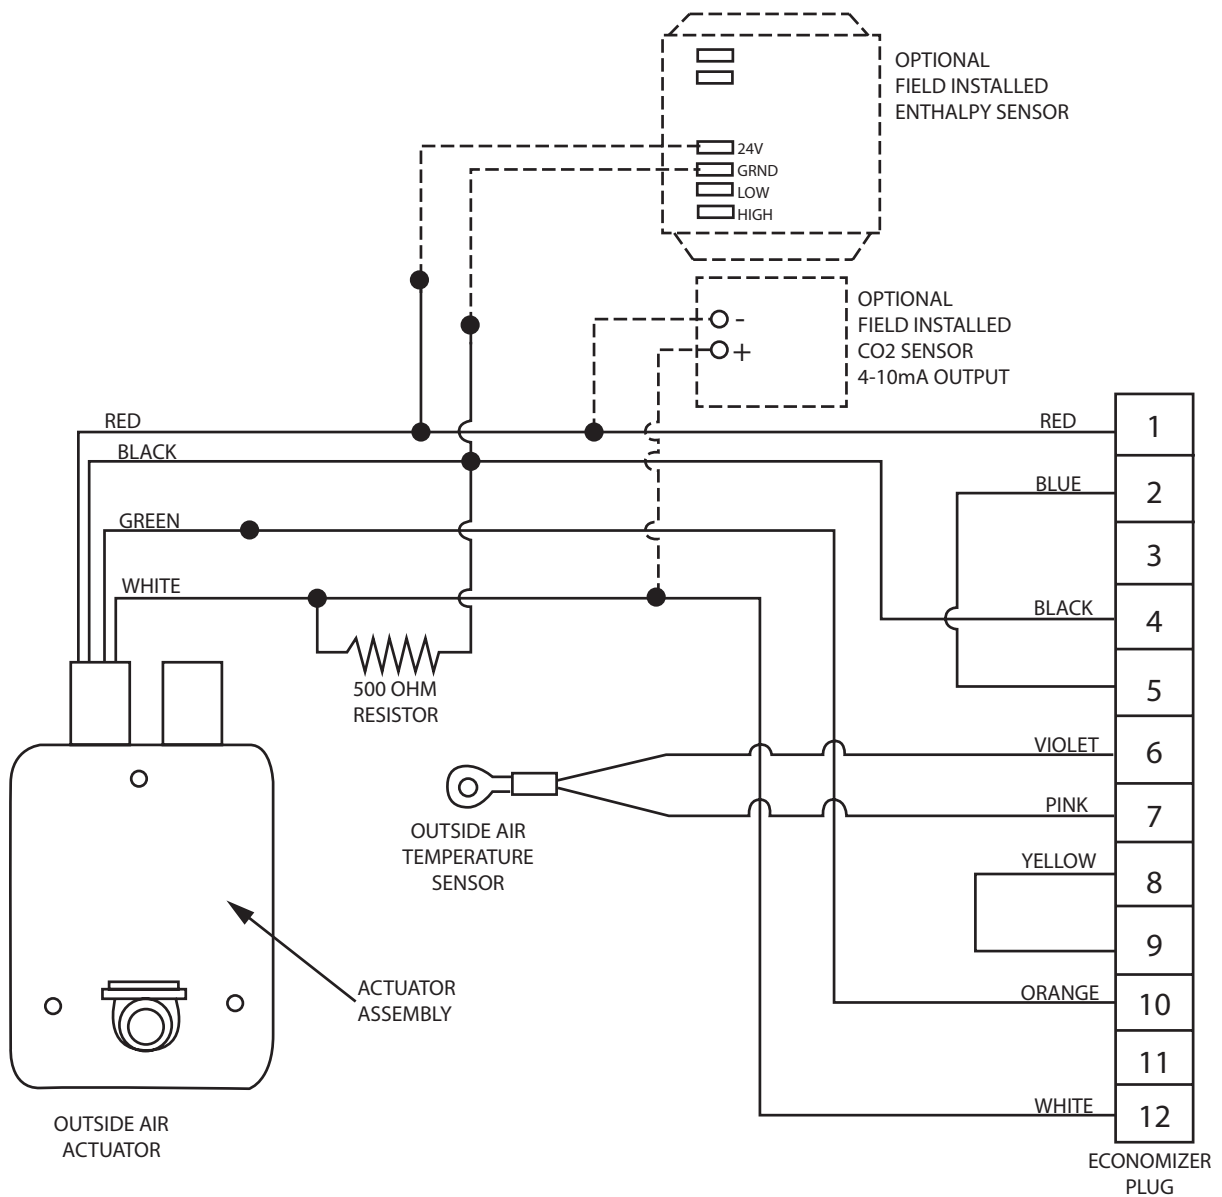

Fig. 9 - Typical Wiring (ECD-SRTCA-D0DB-X Shown)**
9. For ECD-SRT**CA-D0D* remove and save the 12-pin jumper plug from the unit wiring harness (located in the upper left corner of the unit). Insert the economizer plug into the unit wiring harness. Refer to Fig. 9 for typical wiring diagram.